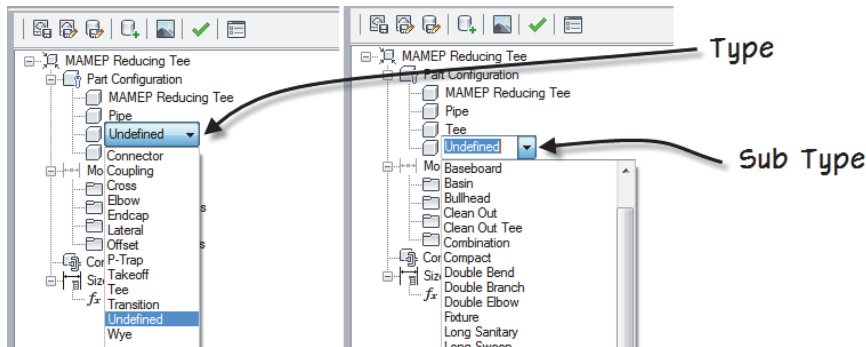

FIGURE 11.4
10. On the Content Builder Palette, expand the Part Configuration, select the Part Type drop down and change undefined to Tee (see Figure 11.4).